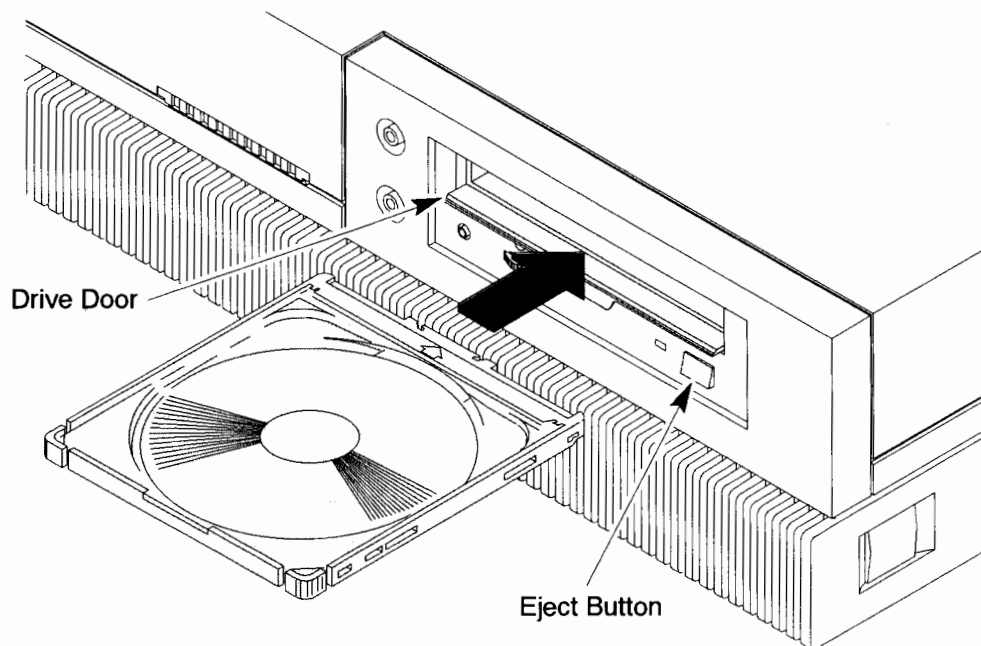

Figure 4-3. Loading and Unloading a CD-ROM Disc Caddy
1. Manually open the door on the front before loading a CD-ROM disc caddy. Always keep the door closed when not loading or unloading a disc caddy. (See Figure 4-3.)
2. Hold the disc caddy with the cover facing up and the arrow on the top of the caddy pointing toward the CD-ROM drive, as shown in Figure 4-3.
1. Press the eject button on the CD-ROM drive. (See Figure 4-3.)
3. Press the eject button on the CD-ROM drive. (See Figure 4-3.)